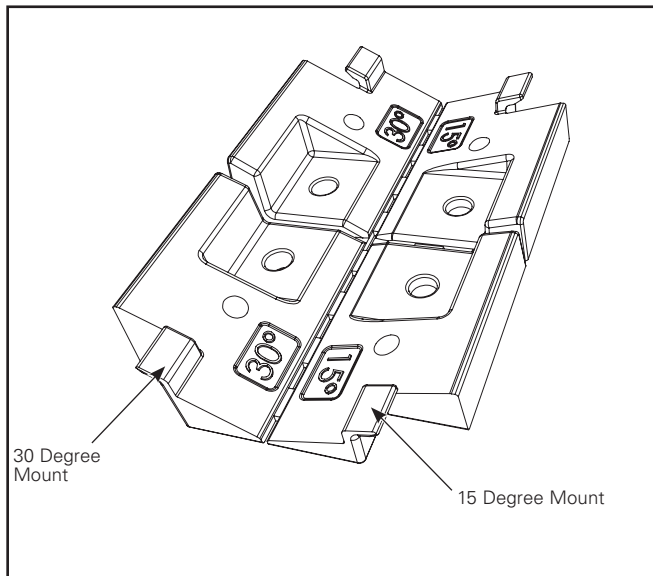

Figure 8
7. "If mounting angle is desired for surface mount installation, place proper degree mounting plate under the surface mount bracket before securing bracket to surface (as shown in Figures 8 and 9).